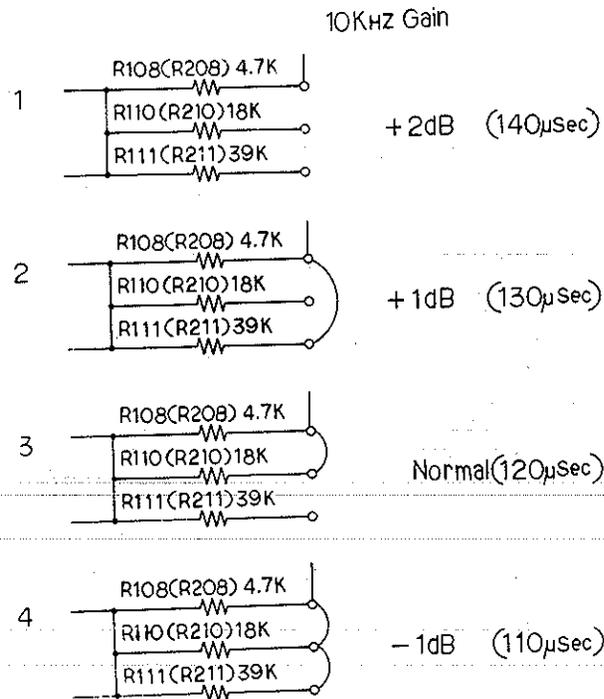

Fig.2 Playback Equalizer
- d. Check the output of 10KHz and then adjust EQ in the range of  $110\mu\text{s}$ —  $140\mu\text{s}$  the result of which shall be 0 — +3dB. Refer to Fig.2.